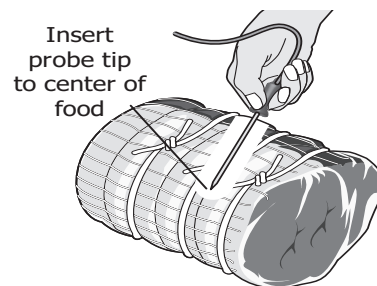

Figure 8: Probe in thickest area of food
- Always insert the probe so that the probe tip rests inside at the center of the thickest part of meat or food (Figure 8). For best results, do not allow the probe temperature sensor to contact bone, fat, gristle or the cookware.